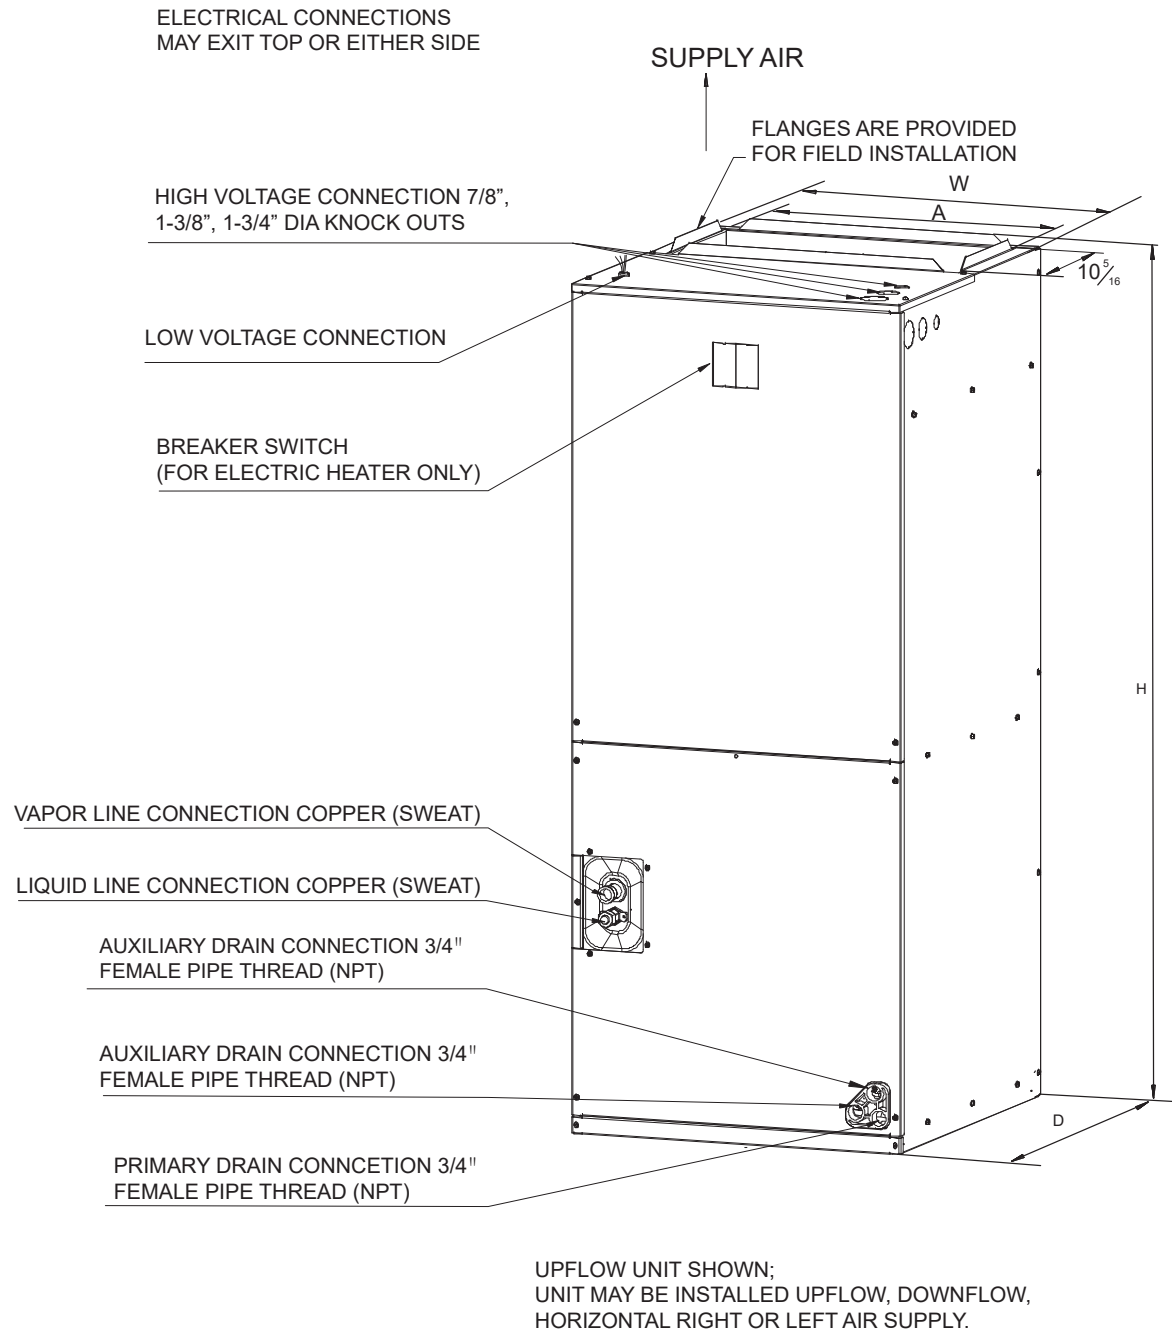

Fig.6 DIMENSIONS
Top and side power and control wiring, accessible screw terminals for control wiring all combine to make the installation easy, and minimize installation cost. See Fig.6.
- Vertical Upflow configuration is the factory set on all models. See Fig. 6.
Torque applied to drain connections should not exceed 15ft.lbs. See Fig. 6&7.